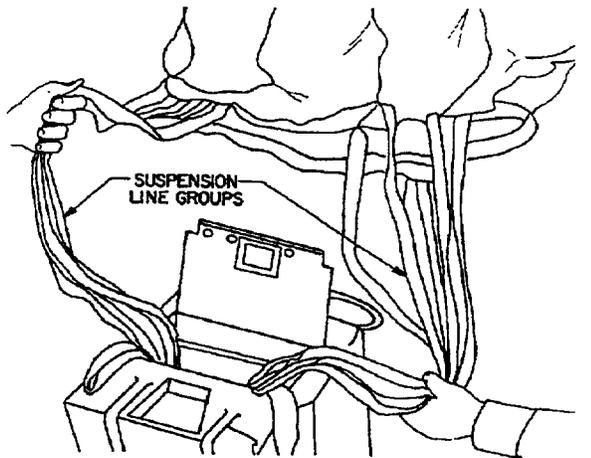

Figure 5. Remove All Twists
f. Remove all twists in each group of suspension lines (Figure 5).